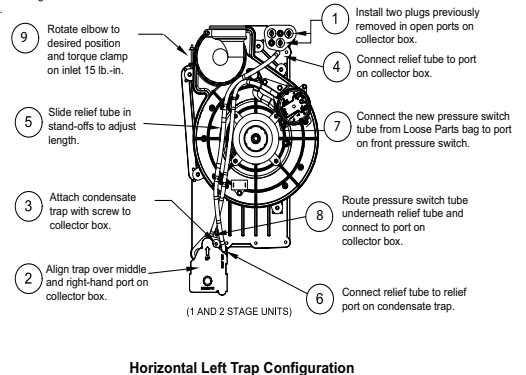

**Fig. 10 – Horizontal Right Trap Configuration**
When the furnace is installed in the horizontal right position, the condensate trap will be initially located at the bottom of the collector box, as received from the factory. See the top image in Fig. 10. When the furnace is installed in the horizontal left position, the condensate trap will be initially located at the top of the collector box, as received from the factory. See the top image in Fig. 11. In both cases the trap must be repositioned on the collector box for proper condensate drainage. See the bottom images in Fig. 10 and Fig. 11.
- Fig. 10 shows the condensate trap and tubing before and after relocation in the horizontal right position.